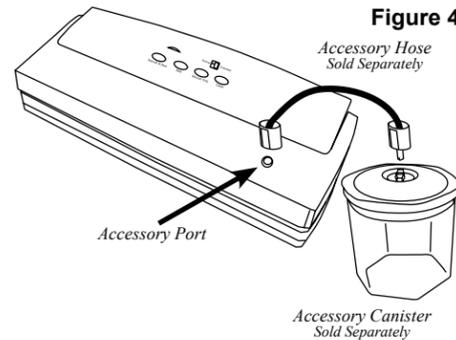

Figure 4
2. Insert one end of the accessory hose into the Accessory Port (Figure 4) on the Vacuum Sealer.
3. Insert the other end of the accessory hose into the port on the lid of the canister (Figure 4).